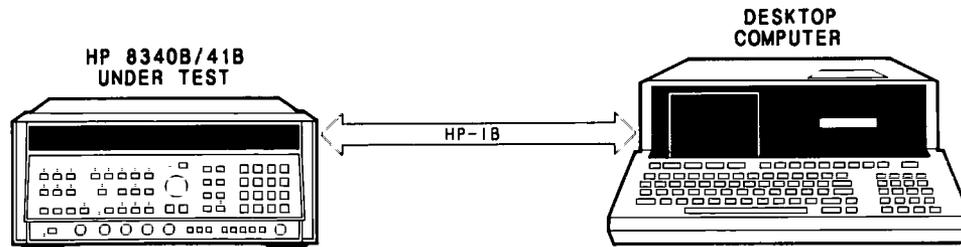

Figure 4-22. HP 8340B/41B HP-IB Operation and Verification Test Setup
- 1 Connect the equipment as shown in Figure 4-22. Enter the program shown in Table 4-32 if the HP 85F is used, or the program in Table 4-33 if the HP 9826A or 9836A is used. Press the RUN key. The program will display the DUT's status bytes similar to Table 4-31. After the program goes through the output loop routine about two times, all status bits should be "0" and the DUT should be in LOCAL mode (front panel REMOTE indicator not ON).